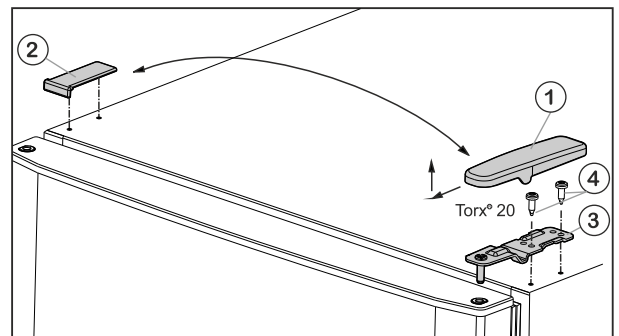

Fig. 6
- ▶ Pull the cover Fig. 6 (1) forwards and upwards.
- ▶ Lift off the cover Fig. 6 (2).
- ▶ Unscrew top bearing block Fig. 6 (3) (2x Torx® 20) Fig. 6 (4) and lift off in upward direction.
- ▶ Install the upper bearing block Fig. 6 (3) on the new hinge side and in the door.
- ▶ Screw in the upper bearing block **tightly (with 4 Nm)** (2x Torx® 20) Fig. 6 (4). Use a cordless screwdriver if necessary.
- ▶ Slide on the cover Fig. 6 (1) on the opposite side from the outside and snap it into place.
- ▶ Slide on the cover Fig. 6 (2) on the opposite side from above until it snaps into place.